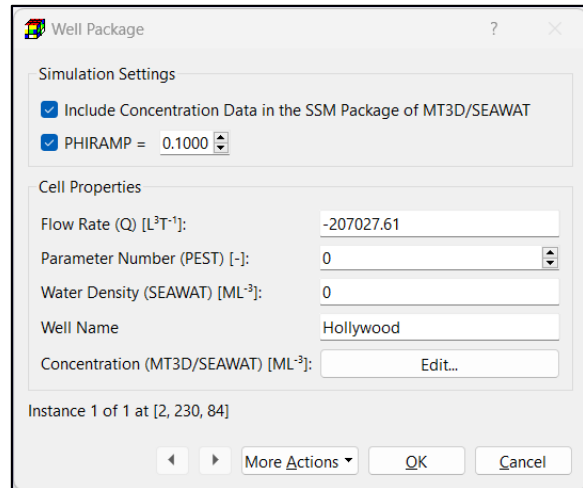

Figure 101. The Well Package dialog box for specifying cell properties
2. Cell-by-cell input method: Figure 101 shows the dialog box for specifying cell properties.
- **Flow Rate (Q) [L³T⁻¹]:** Negative values are used to indicate pumping wells, while positive cell values indicate injection wells. The injection or pumping rate of a well is independent of both the cell area and the hydraulic head in the cell. MODFLOW assumes that a well penetrates the full thickness of the cell. To simulate wells that penetrate more than one model layer with the WEL Package, a flow rate must be specified for each penetrated layer. The total flow rate for a multi-layer well is equal to the sum of flow rates of individual layers.